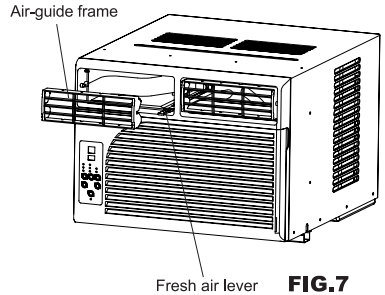

FIG.7
- If you purchase the models with fresh air function, while dismantling the air conditioner to repair the inner parts (such as condensator, evaporator, copper pipe etc.), be sure to first remove the air-guide frame, pull upward the fresh air lever to make it disengage from its place (FIG.7), and then continue the other dismantling work.